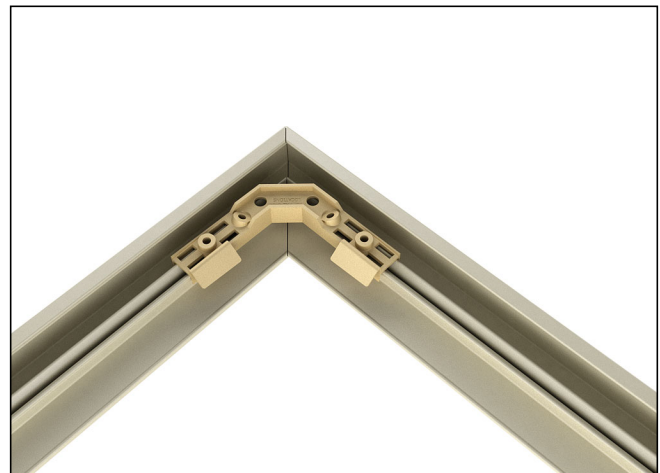

Figure 14
2. Test fit casing parts on flat surface with included corner keys without screws to verify assembly. See figure 14.